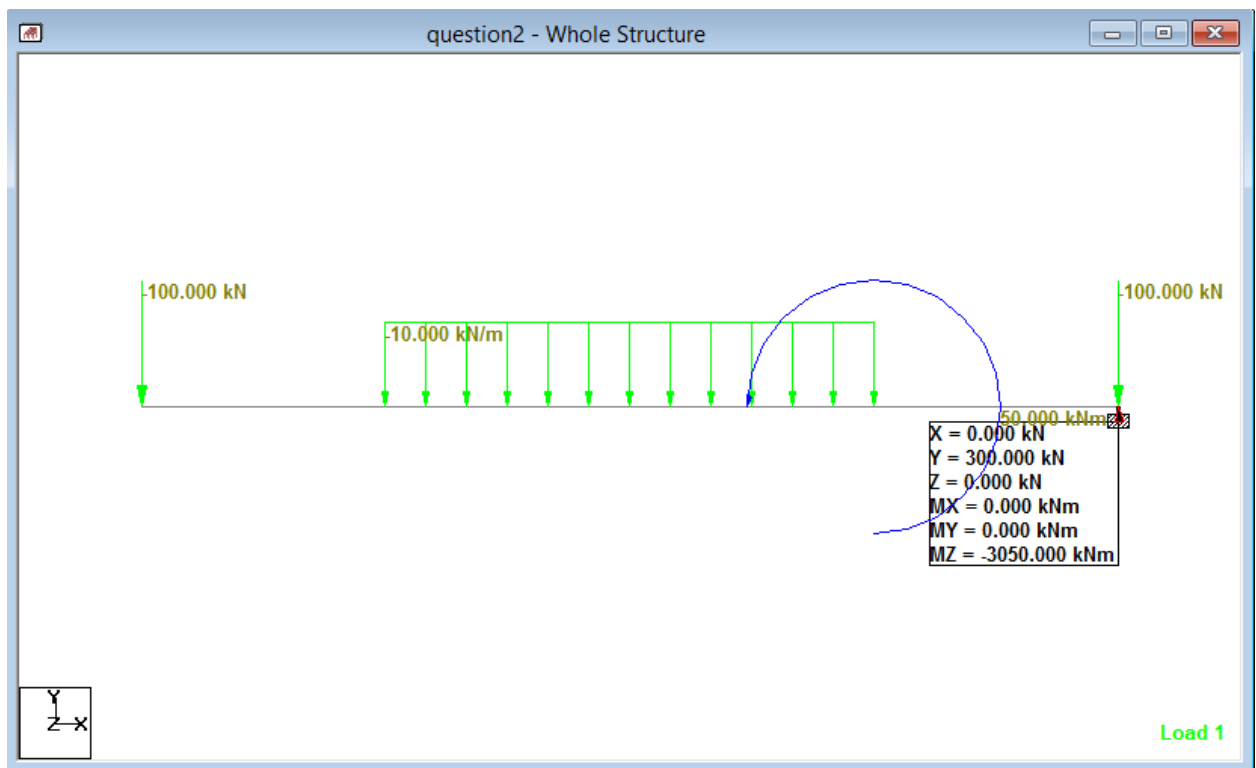

Figure 1
- a) Figure 1 shows the value of normal stress and shear stress produced in a bar of thickness 50mm, width 25mm and pin of diameter 45mm when the bar and pin configuration is pulled with a tensile force of 100kN.